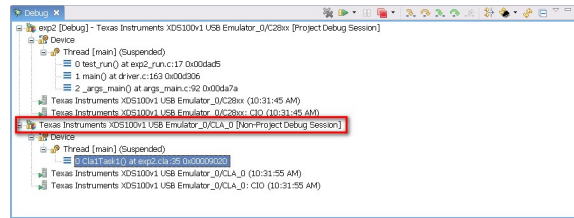

Figure 5.7: CLA Debug Session
- (a) Click on the CLA debug session (highlighted in Fig. 5.7)